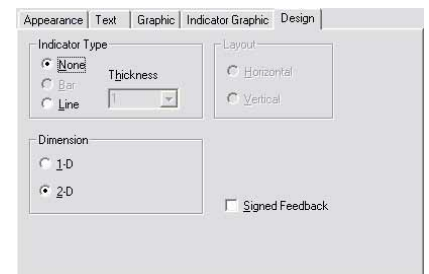

Figure 4b
- d. Switch to the Design tab (Figure 4b)